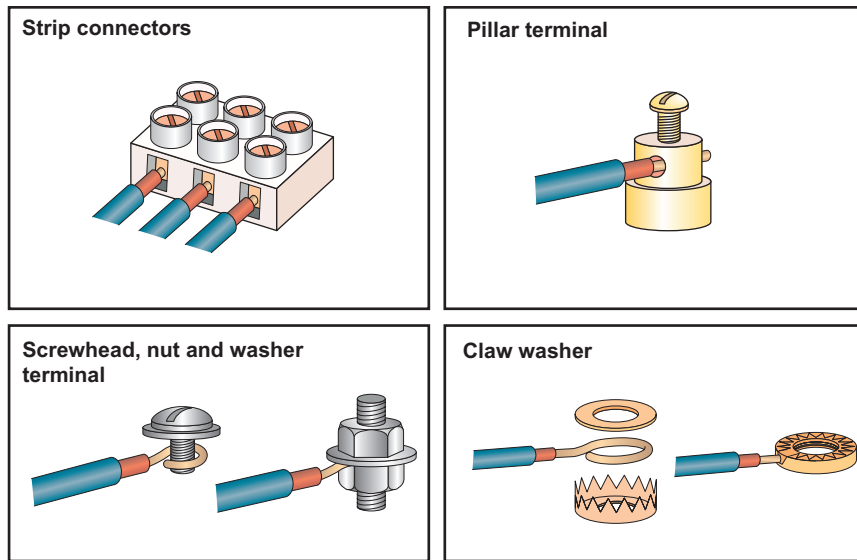

Figure 4.12 Types of terminal.
Strip connectors or a chocolate block is a very common method of connecting conductors. The connectors are mounted in a moulded plastic block in strips of 10 or 12. The conductors are inserted into the block and secured with the grub-screw. In order that the conductors do not become damaged, the screw connection must be firm but not over-tightened. The size used should relate to the current rating of the circuit. Figure 4.12 shows a strip connector.
A pillar terminal is a brass pillar with a hole through the side into which the conductor is inserted and secured with a set-screw. If the conductor is small in relation to the hole it should be doubled back. In order that the conductor does not become damaged, the screw connection should be tight but not over-tightened. Figure 4.12 shows a pillar terminal.
The conductor being terminated is formed into an eye, as shown in Fig. 4.12. The eye should be slightly larger than the screw shank but smaller than the outside diameter of the screwhead, nut or washer. The eye should be placed on the screw shank in such a way that the rotation of the screwhead or nut will tend to close the joint in the eye.
In order to avoid inappropriate separation or spreading of individual wires of multiwire, claw washers are used to obtain a good sound connection. The looped conductor is laid in the pressing, as shown in Fig. 4.12, a plain washer is placed on top of the conductor and the metal points folded over the washer.
1. To avoid separation or spreading of individual wires, suitable terminals must be used or the conductor ends treated. For example, by enclosing the individual wires of multiwire in a brass ferrule or claw washer as shown in Fig 4.12.